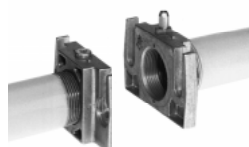

Fig. 5
1. Mount flange onto tube lines: use appropriate sealing agent (see Fig. 5);
2. insert MB-DLE: note position of O rings (see Fig. 5);